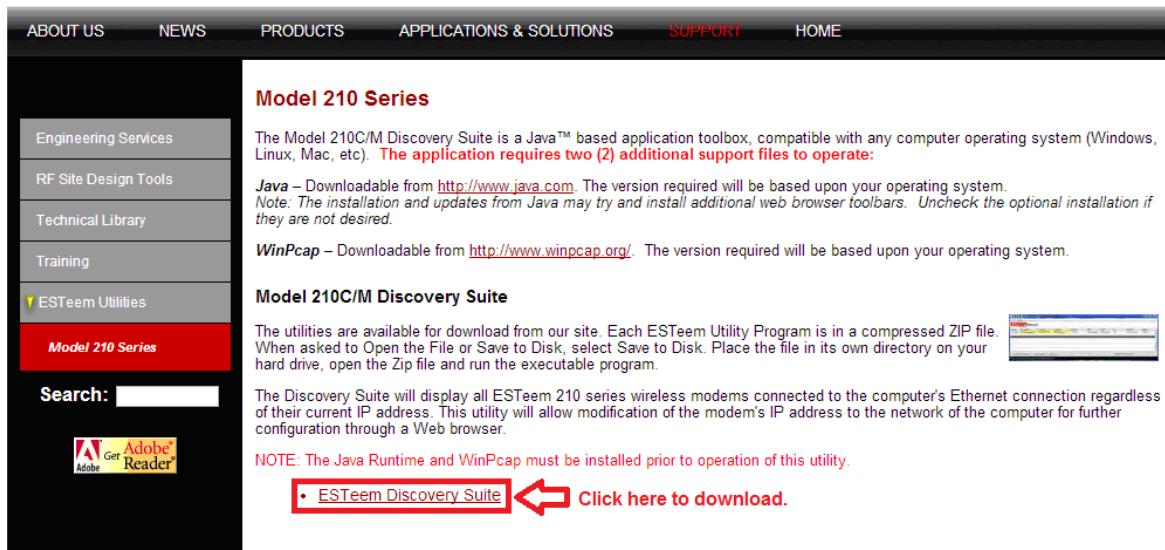

Figure 4: Discovery Utility Download
- Download and unzip the ESTeem Discovery Suite Utility (Figure 4) then run the “ESTeem.exe” executable within.